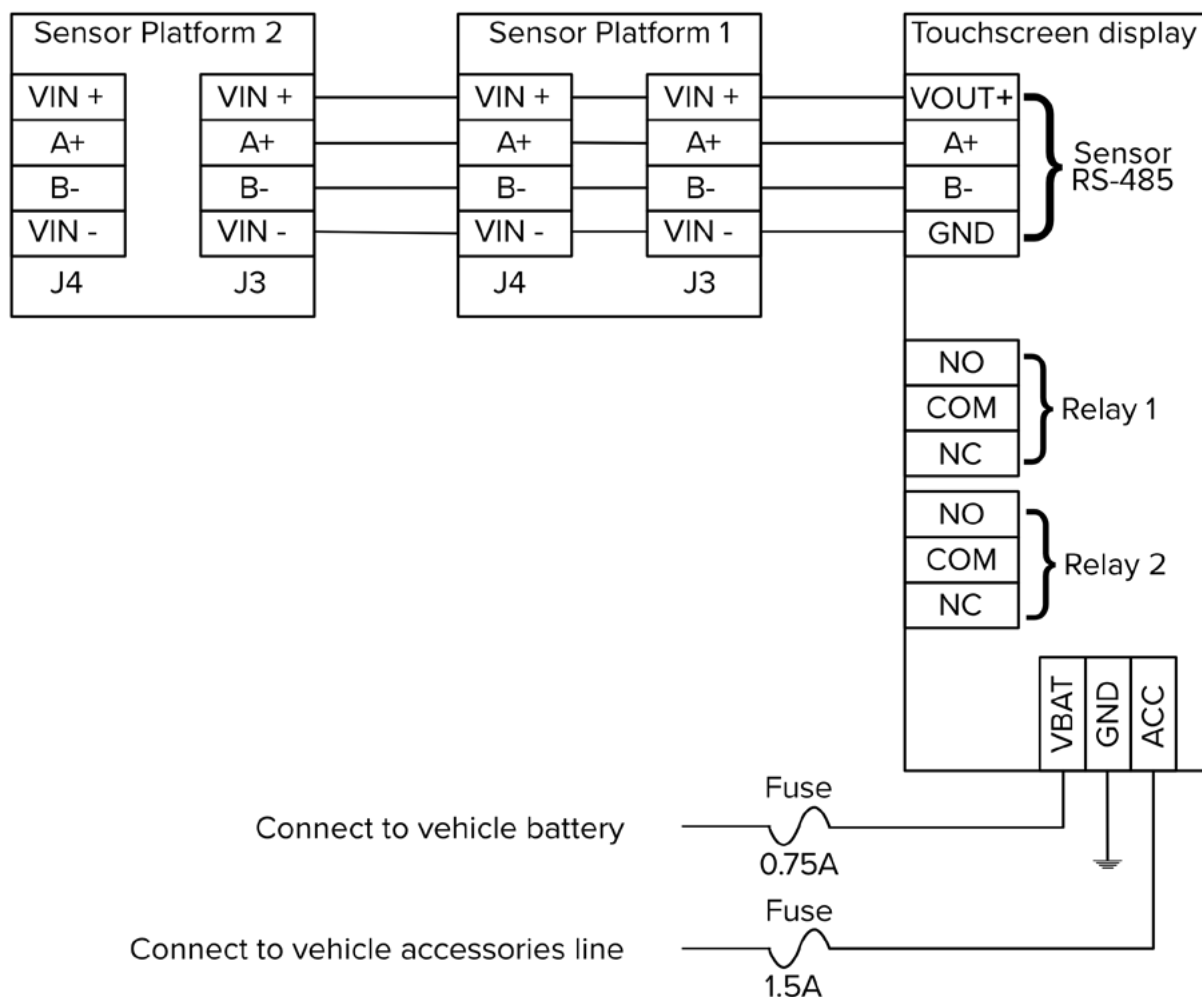

Figure 26. G-Shield Fire system wiring diagram.
**Note:** Gastech recommends inline fuses for both power feeds. Refer to figure 26 for the fuse values.